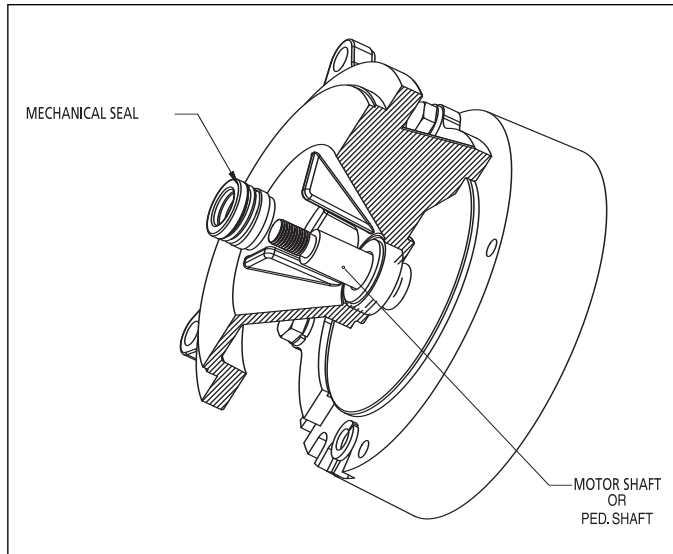

Figure 3 - Seal Removal
4. The seal (part of Ref. No. 6) can now be pulled from the shaft. (See figure 3).
## Seal Assembly Removal and Installation (Figures 3 thru 6)